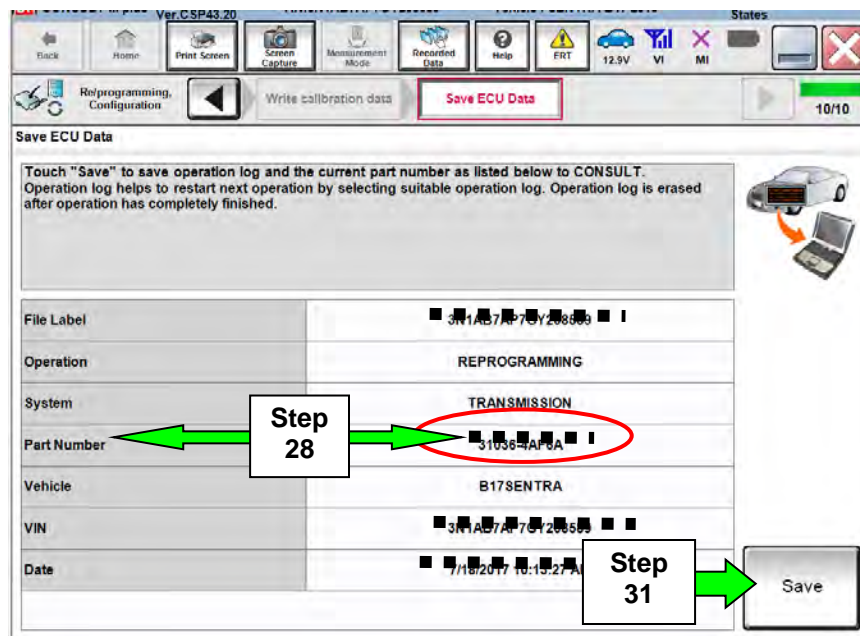

Figure 15
28. Find the TCM **Part Number** (see Figure 15) and write it on the repair order.